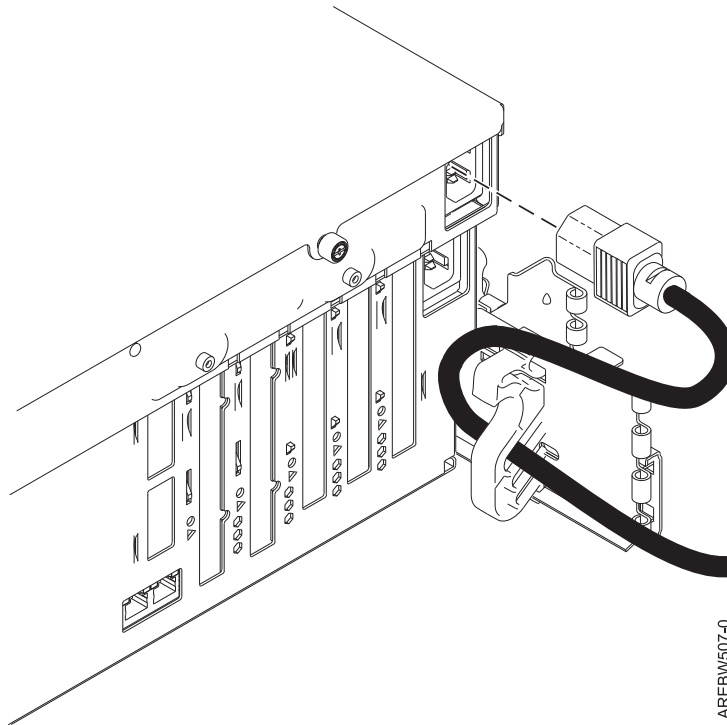

Figure 32. Routing server power cord
1. While facing the rear of the system unit, note the bottom tab of the cable-restraint bracket. Turn the cable-restraint bracket counter-clockwise to a horizontal position, and insert the bottom tab of the cable-restraint bracket into the bottom hole in the rail. Then rotate the cable-restraint bracket clockwise to the vertical position as shown in Figure 32 on page 38. Insert the system power cord through the cable-restraint bracket as shown in this figure. Then press down on the top of the bracket and insert the top tab into the top hole.